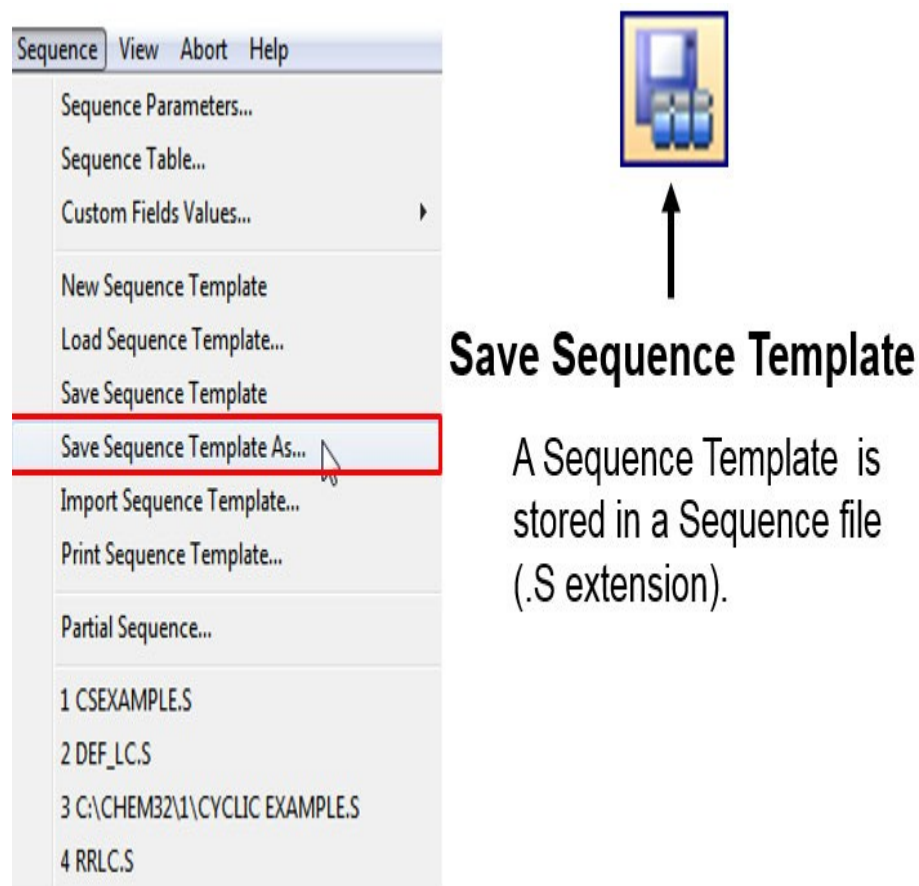

Figure 12: Saving the Sequence File
- 7.7.4 Click on the “**Sequence**” tab again, and select “**Save Sequence Template As...**” Give the sequence a name that is relative to the study (such as sample ID#, date, etc.). For example, a sequence created for product XXX may be designated as XXX.S. Click on “**OK.**” (Figure 12)